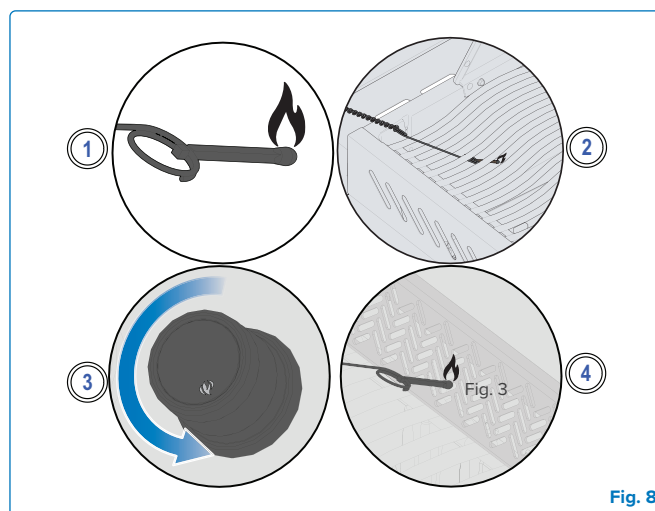

Fig. 8
2. Insert the lit match through the cooking grids and sear plates while turning the corresponding burner knob to high. **(Fig. 8).**